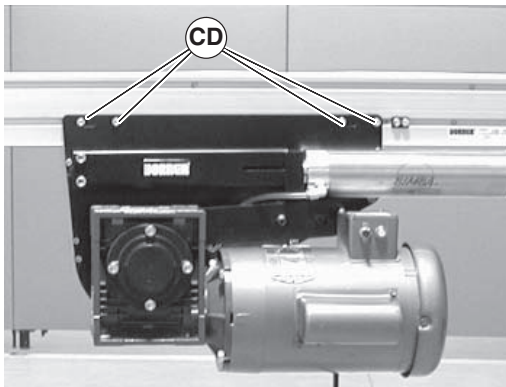

Figure 52
2. If necessary, adjust the tracking cam: loosen the center drive fastening screws (Figure 52, item CD) on the side of center drive to be tracked.
4. Tighten the center drive fastening screws (Figure 52, item CD) to 146 in-lbs (16.5 N-m).